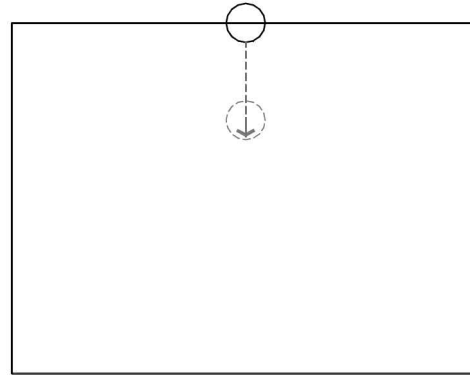

FIGURE 4-2.2 Creating a circle and moving it into place.
6. Pick the midpoint of the top line (Figure 4-2.2).
10. **Move** the circle straight down 5" (Figure 4-2.2).